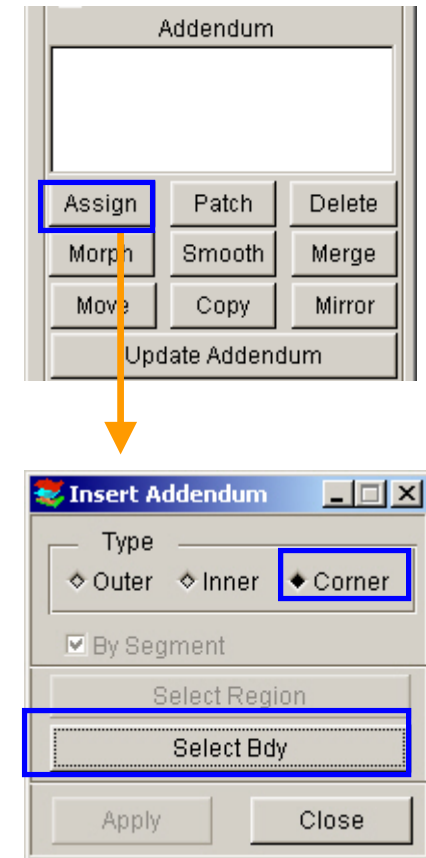

Figure 2.16
- Click **Select Bdy** (See Figure 2.16)